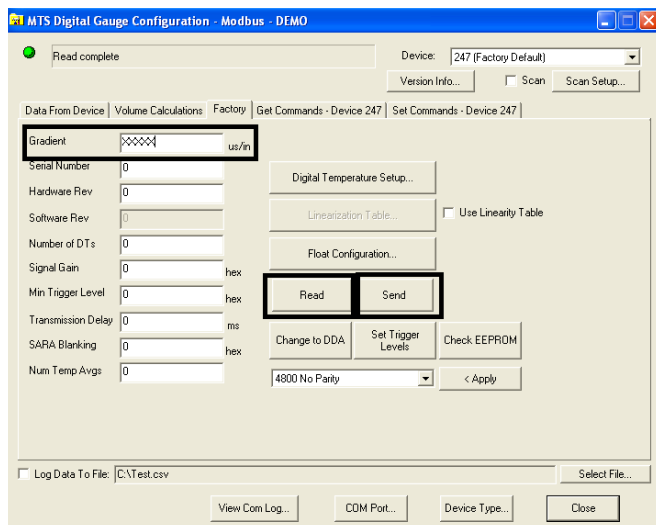

Figure 11. Factory window; Entering the new gradient value and reading new settings
4. Click the “Factory” tab. The Factory Tab window opens. Type the Gradient value you recorded from the Gradient Off Tag (Figure 11).